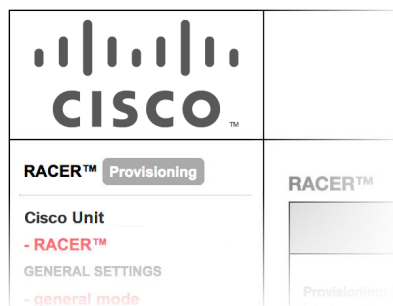

Figure 21. Racer status icon (Provisioning Mode)
- Check that the unit is in Provisioning Mode by looking at the colored icon to the right of the **RACER™** tag in the upper left-hand corner of the screen (Figure 21 \(page 43\)).